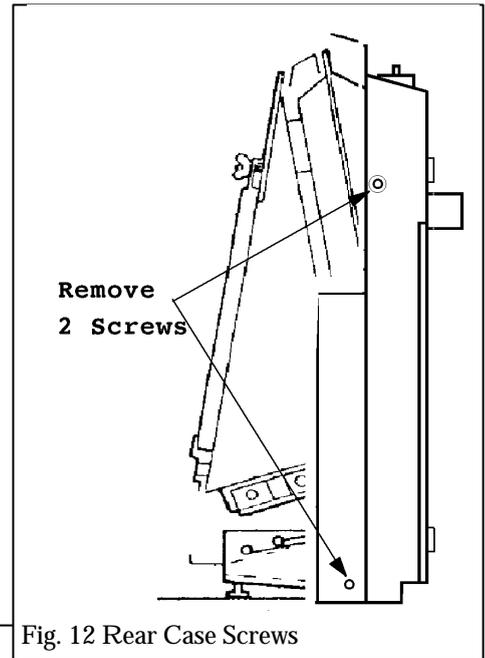

Fig. 12 Rear Case Screws
15.12.2 To allow access to the flue switch, remove the two screws securing the right side of the rear outer case (See figure 12).